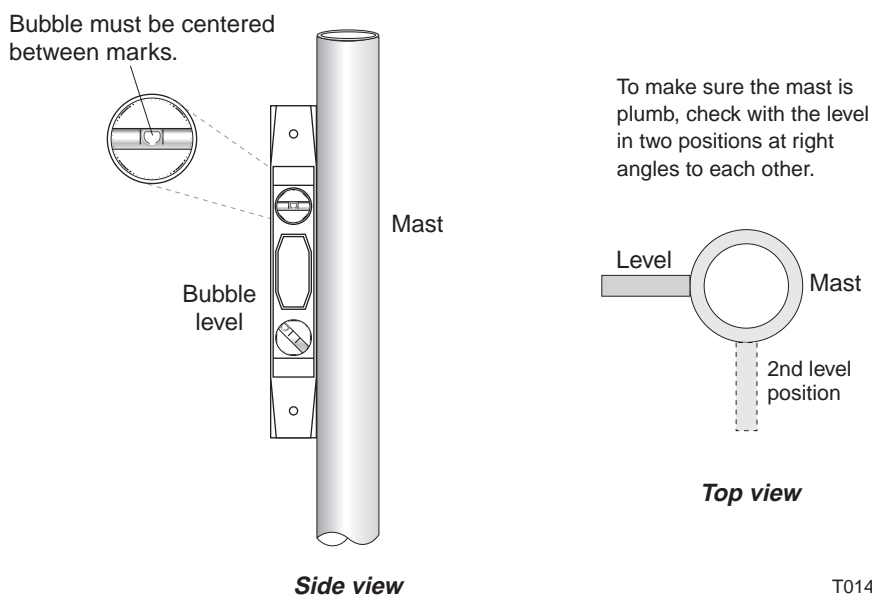

Figure 26: Making sure the mast is plumb
1. Before you install the antenna assembly onto the mast pipe, use a bubble level to make sure that the mast is plumb. Check the mast at two perpendicular locations, as shown in Figure 26.